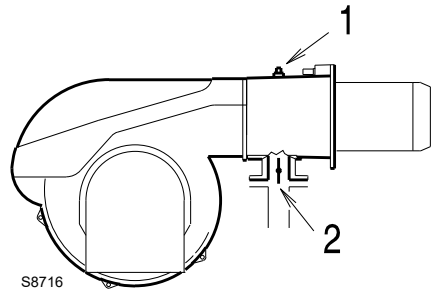

Fig. 24
Gas pressure measured at the test point 1)(Fig. 24), with:
Pressure loss at gas butterfly valve 2)(Fig. 24) with maximum opening: 90°.
- Subtract the combustion chamber pressure from the gas pressure measured at test point 1)(Fig. 24).
Gas pressure at test point 1)(Fig. 24)	= 16.0 mbar
To know the required gas pressure at test point 1)(Fig. 24), set the maximum output required from the burner operation, then:
- Read, on the right (column 1) the socket pressure 1)(Fig. 24).
pressure required at test point 1)(Fig. 24).